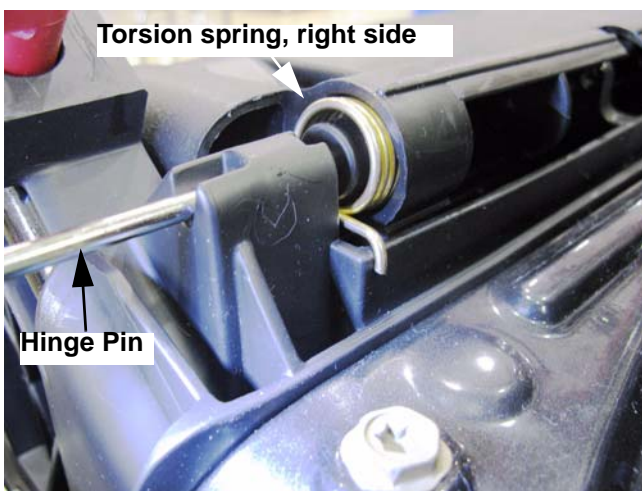

Figure 4.12
5. Lift the grass door off of the mower, keeping track of the torsion springs that keep it closed. See Figure 4.12.